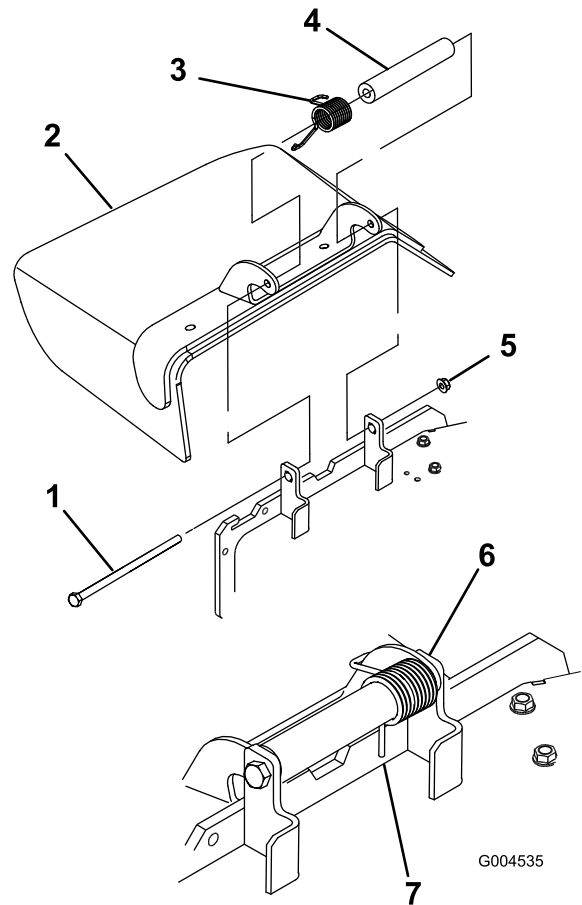

Figure 60
1. Remove the locknut, bolt, spring and spacer holding the deflector to the pivot brackets (Figure 60). Remove the damaged or worn grass deflector.
Note: Make sure the end of the spring is installed behind the deck edge before installing the bolt as shown in Figure 60.
3. Install the bolt and nut. Place the end of the spring around the grass deflector (Figure 60).